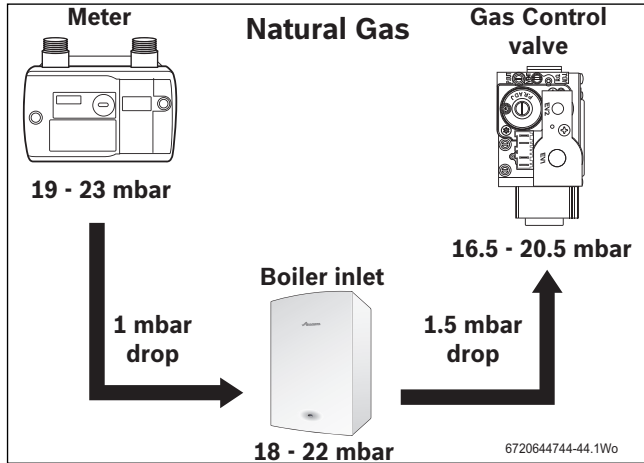
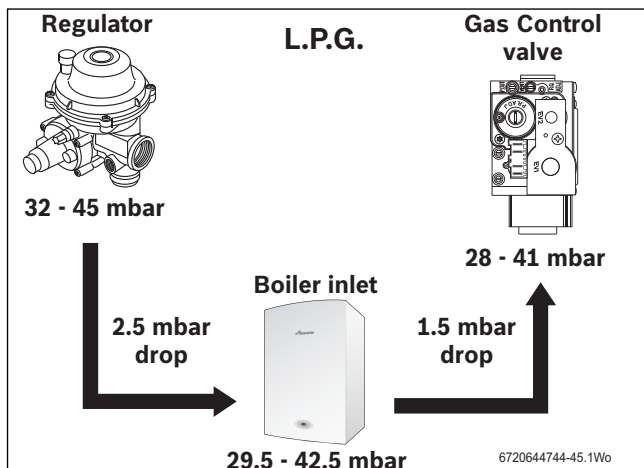

Fig. 52 Natural gas pressures
Fig. 53 L.P.G. pressures
- Press Performance test button (J) for more than ten seconds and set Central Heating temperature to maximum.
- The Performance test button (J) will illuminate continually and the display (C) will alternate between and and the central heating flow temperature.
- ▶ Check the gas supply working pressure at the gas valve conforms to values shown in Fig. 52 or Fig. 53 .
If the pressure drops are greater than shown in fig. 52, this indicates a problem with the pipe work or connections within the system.
If the pressure drops are greater than shown in figure 53, then this would indicate a problem with the pipe work or connections within the system.